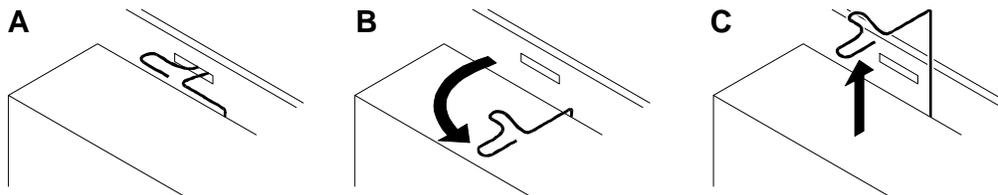

Figure 4-2. Unlocking Retaining Pin
6. As shown in Figure 4-2, *Unlocking Retaining Pin*, unlock each of two retaining pins (B) from the slots along the edge of the alarm board that hold the drive in place. Slide out both pins (C); this releases the drive from the board.